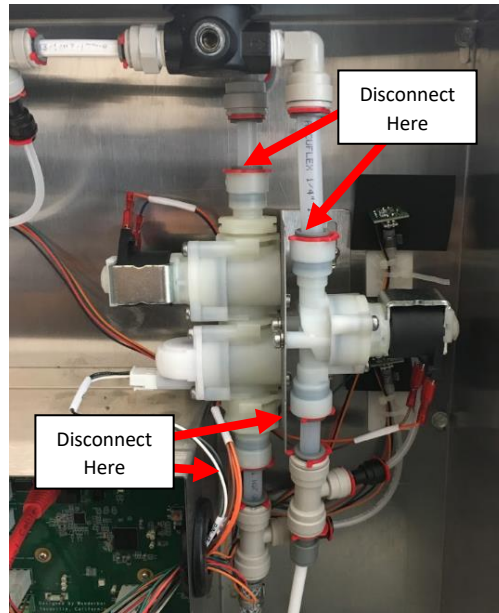

Figure F2: Connection Shown.
2. Remove all four locking clips holding the Flowmeter/Solenoid Module on the bottom end of the Solenoid Flowmeter Module and remove the 3/8" tube from it. See **Figure F2**.